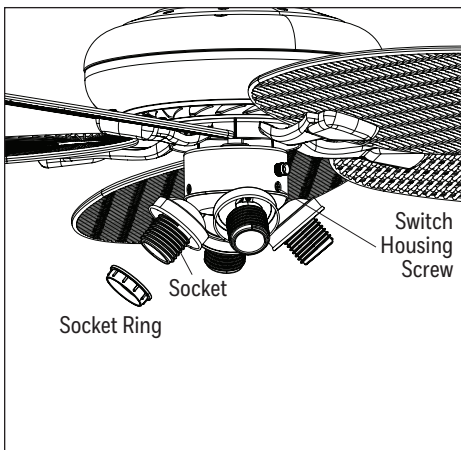

Figure 5.7
- Attach the light kit to the switch housing using the three switch housing screws. Then remove the four socket rings from the sockets of the light kit (Figure 5.7).